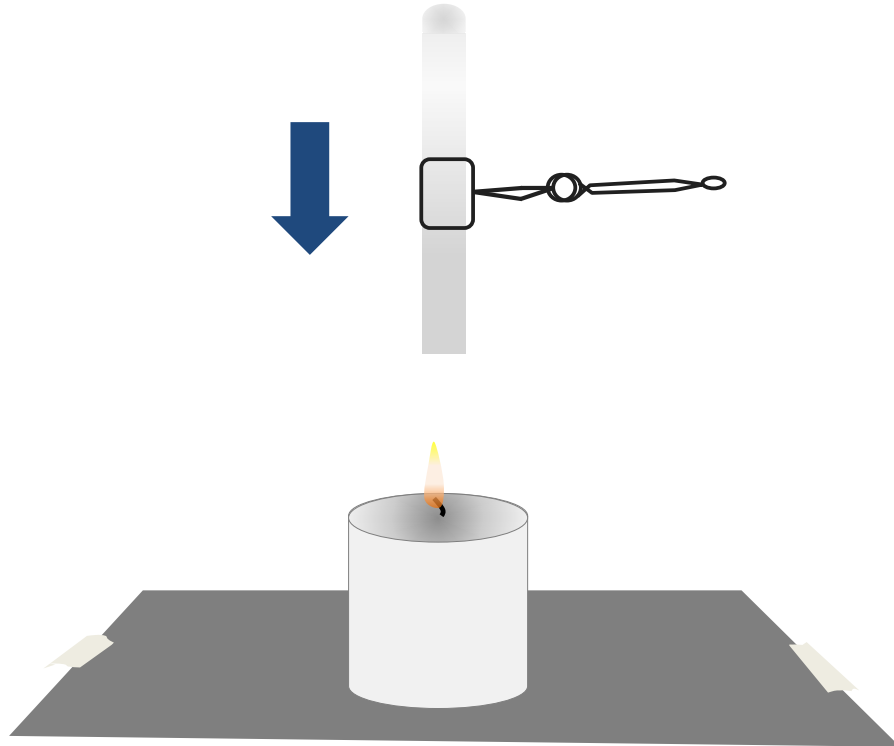

Figure 8: Step 18 reference. Side view of work surface.
18. Hold the inverted test tube over the candle flame and lower it onto the flame until the opening of the test tube touches the candle wax (Figure 8).